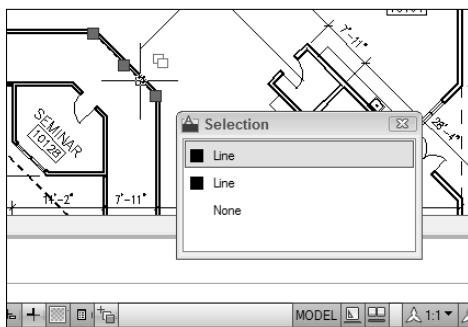

Figure 2-7:
✓ **Selection Cycling (SC):** It's remarkably easy in AutoCAD to draw objects on top of other objects and not be able to tell you've done so. When the new Selection Cycling is enabled, an icon showing two overlapping rectangles appears beside the crosshairs if AutoCAD finds more than one object under them. If you then click to select, a Selection window pops up showing you how many objects, and of what type, are under the point that you picked (see Figure 2-7).